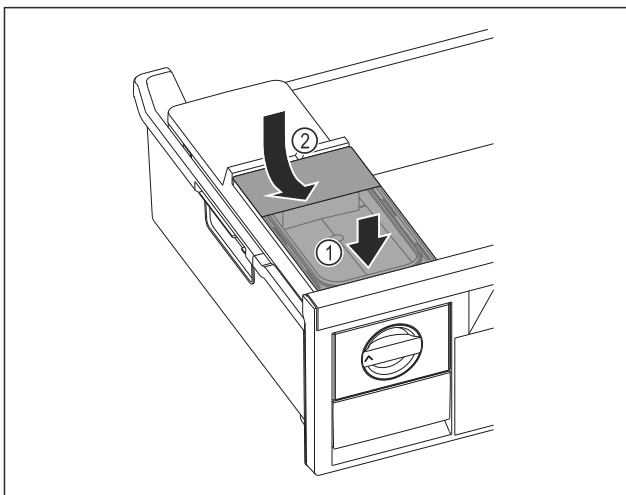

Fig. 113
- ▶ Position the water tank at the front. Fig. 113 (1)
- ▶ Lower the water tank at the rear. Fig. 113 (2)